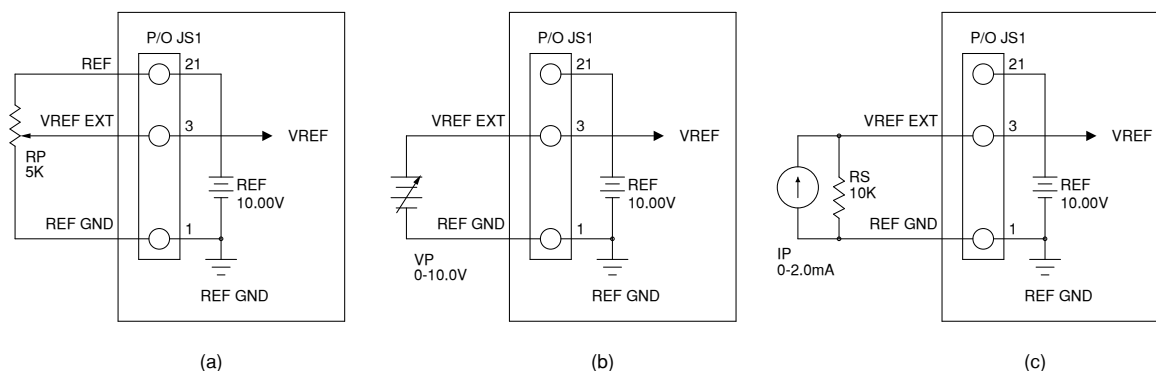

Figure 3.12. External (a) resistive, (b) voltage, and (c) current programming
*Figure 3.12, "External (a) resistive, (b) voltage, and (c) current programming"* illustrates the three alternative sources for programming the voltage set point. Similar methods apply to programming set point current, over voltage trip, and over current trip.